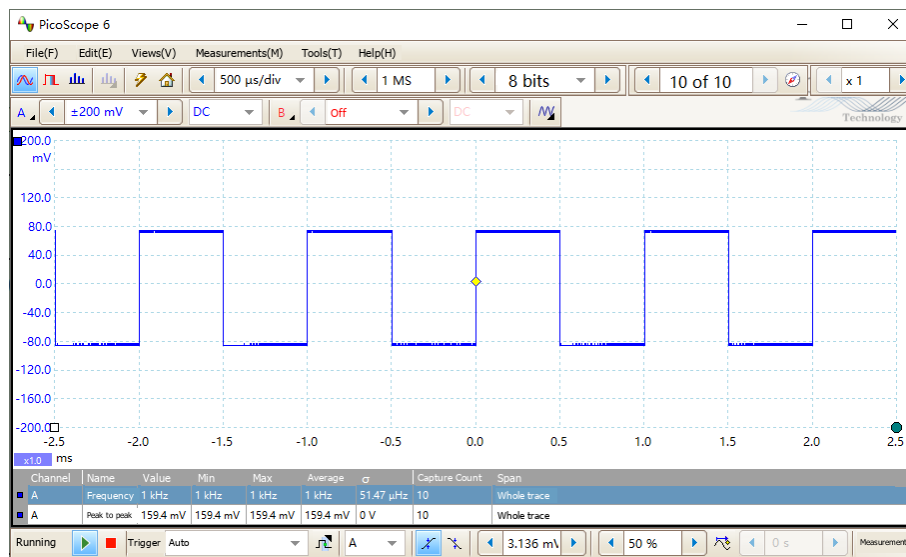

Figure 95. Signal Under Test Parameter Diagram
3. Turn on the function generator and set the parameters to "Waveform: square wave", "Amplitude: 160 mV_{pp}", and "Frequency: 1 kHz". The waveform of the signal under test is shown in Figure 95.